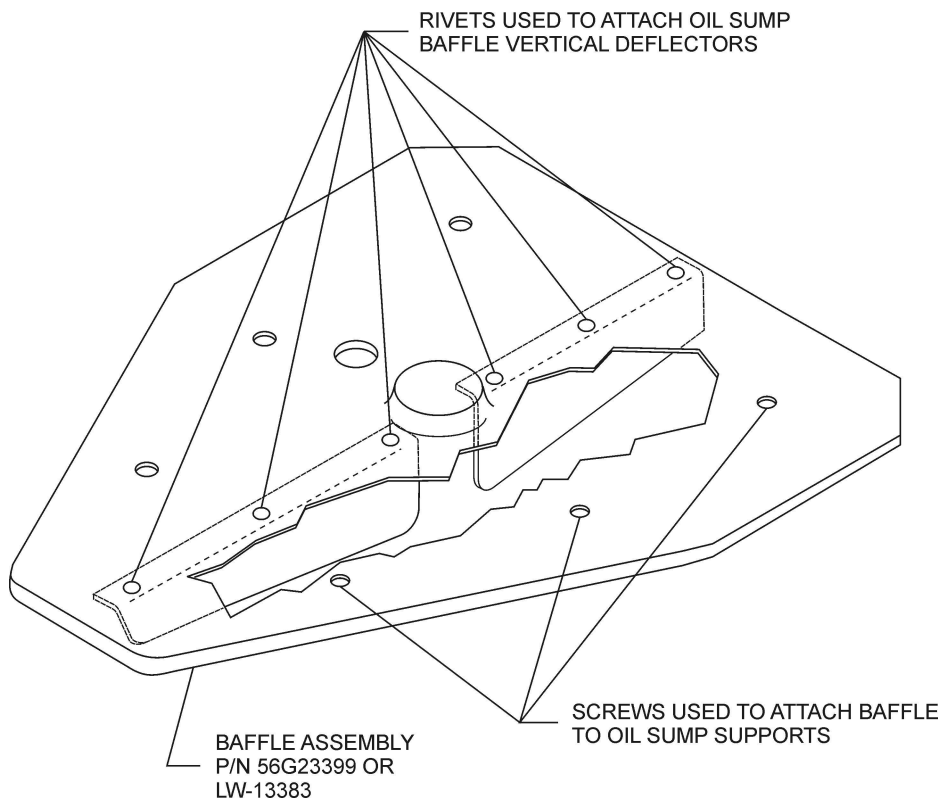

Figure 3. Example of Oil Sump Baffle
5. Examine the baffle. If the baffle is damaged, it must be replaced before reassembly. Examples of damage may include, but is not limited to, a deformed baffle plate, deformed fins, cracked attachment holes, or missing rivets. See Figure 3.